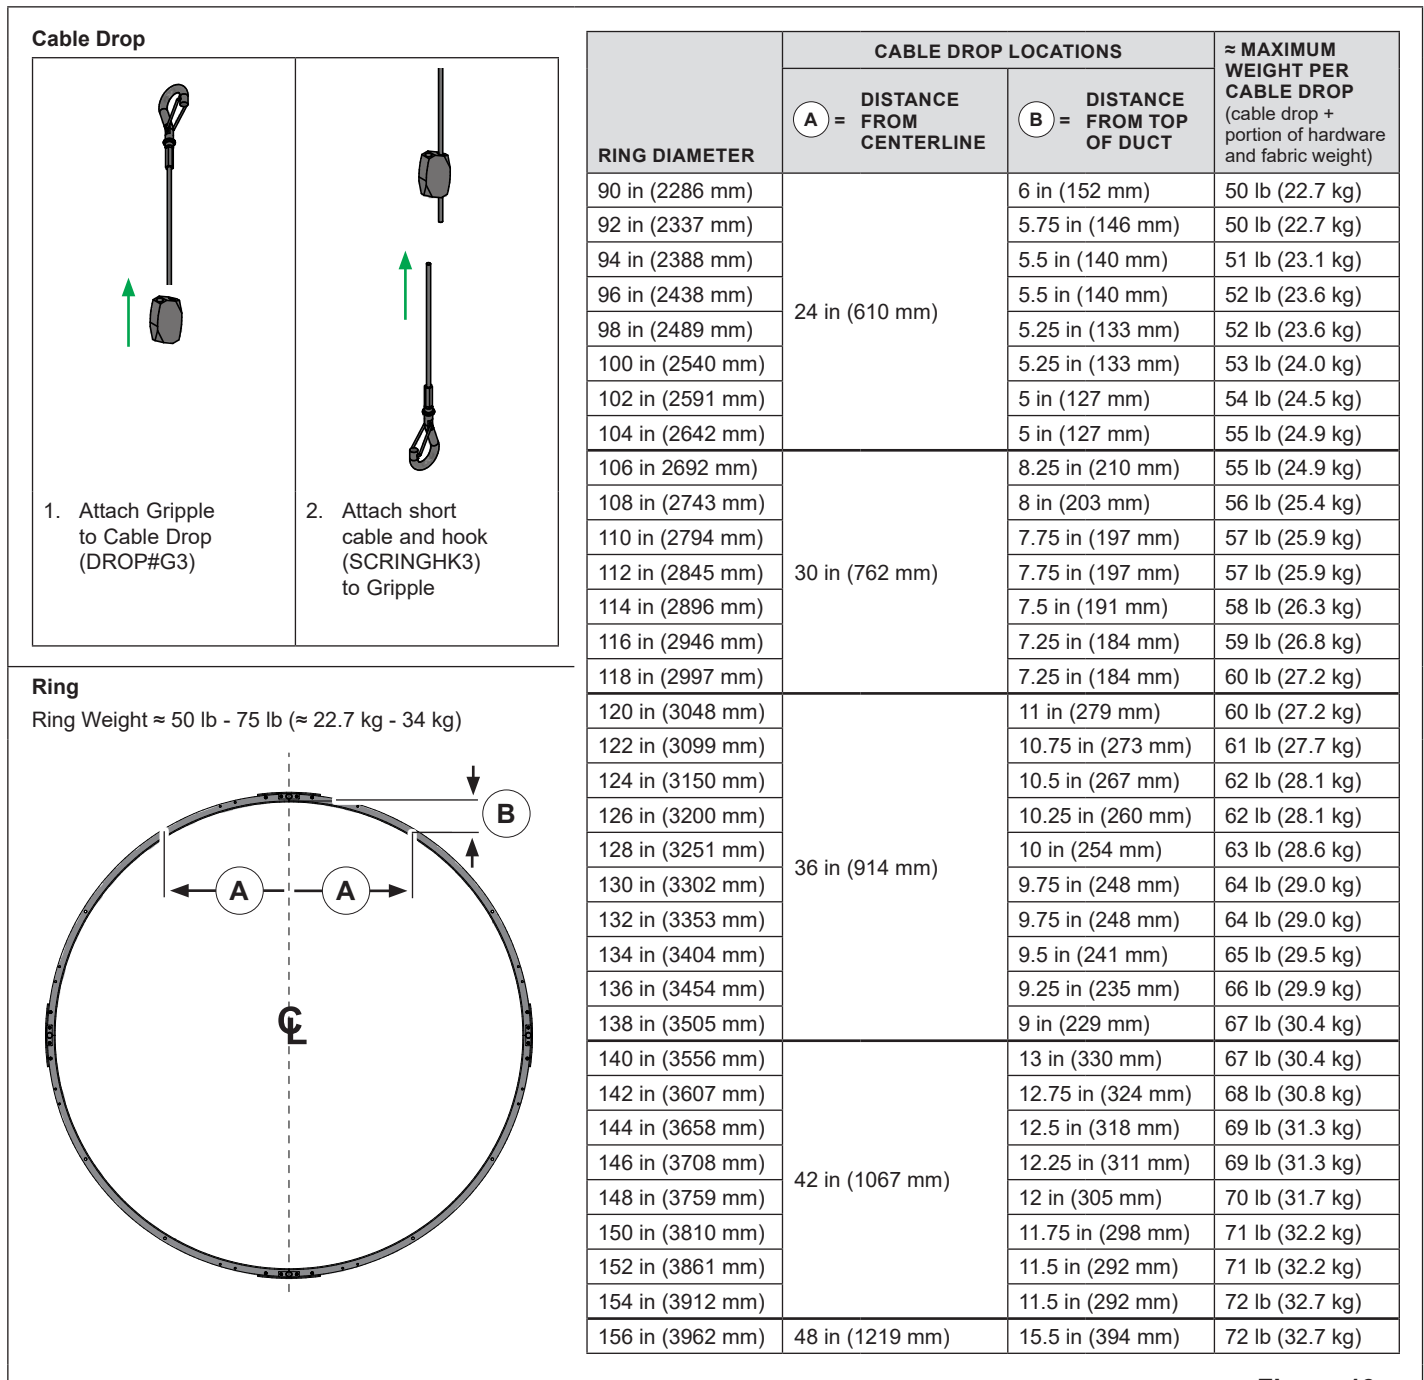

Figure 13
3. Determine how far to hang each cable drop from the centerline (A) (Figure 13).
4. Use the site-specific top-of-duct requirements to set your cable length. Refer to (B) (Figure 13) for recommended distances.